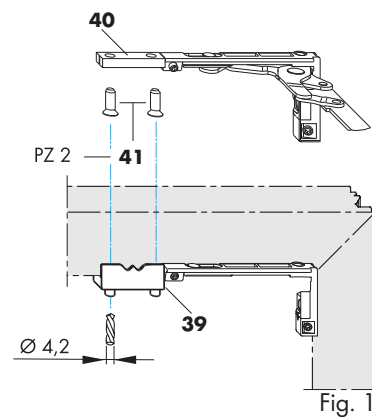

Fig. 1
1. Insert the BS axxent 130 kg jig (39) on loosened stay, as shown in the adjacent diagram (fig. 1).
2. Drill holes with $\varnothing 4.2$ for the BSO A0040 supporting piece (39).
3. Insert the BSO A0040 supporting piece (40) into the frame groove, position it on the stay and fix it in place with M5 x 13 countersunk screws (41).
4. Tighten the M5 x 13 countersunk screws (41) with 2.5 ± 0.25 Nm.